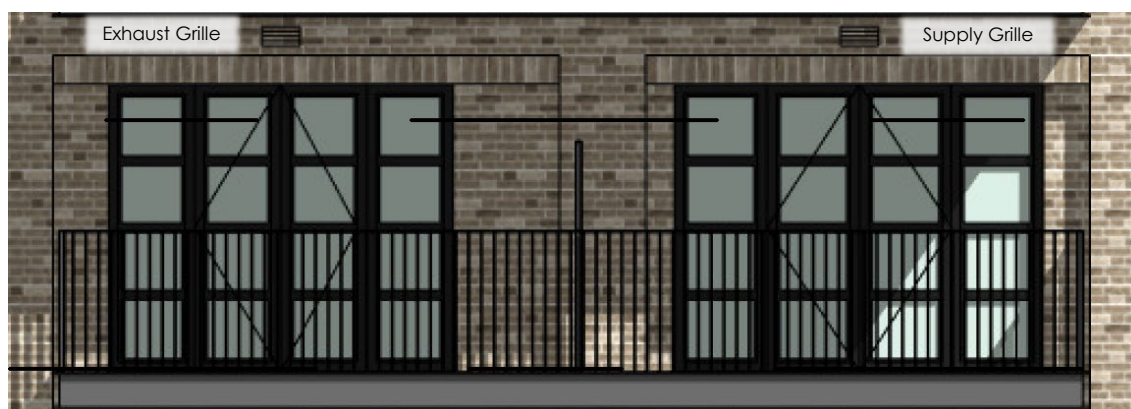

Figure 4: MVHR Grilles for Typical Flat
15. A more detailed view of a typical flat is shown in **Figure 4** below: